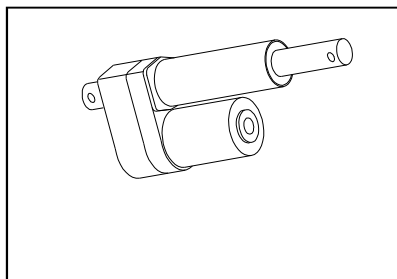

FIG 4.28
5. Attach the depth command actuator (fig. 4.28) to the light sensor mount and the tool bar.